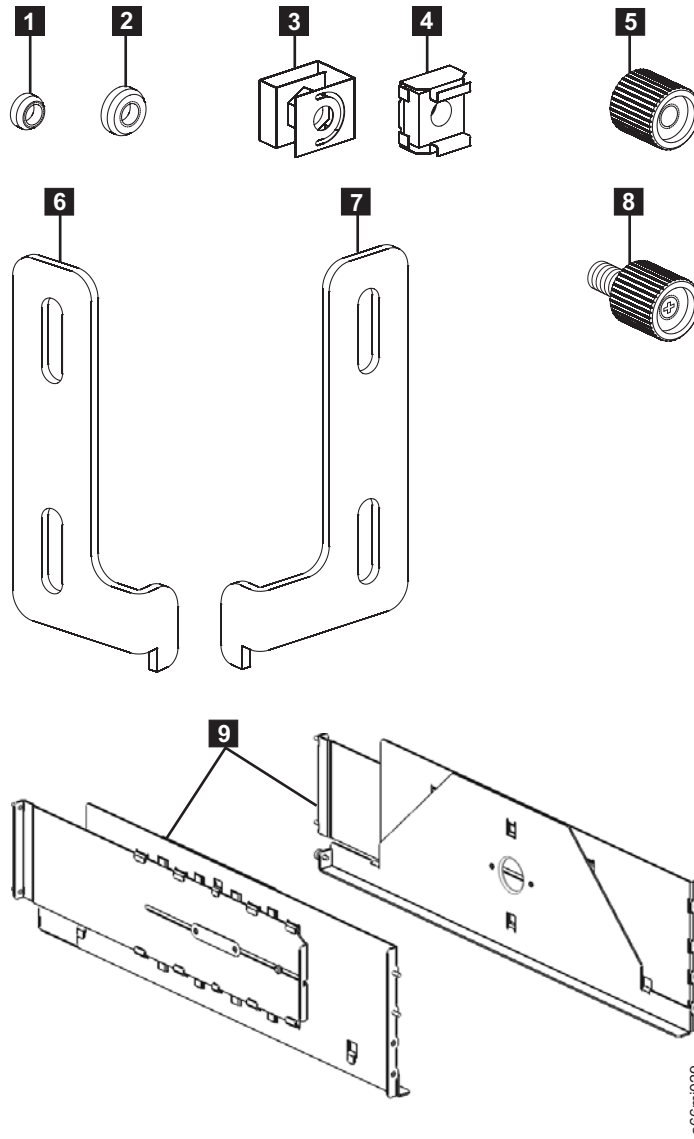

Figure 3-13. Rack Mount Kit hardware (parts not sized proportionately in figure)
16	Centering nuts: <ul style="list-style-type: none"> • 8 for racks with round holes (1 in Figure 3-13) • 8 for racks with square holes (2 in Figure 3-13)
8	Black thumb nuts (5 in Figure 3-13)
2	Rack ears (6 and 7 in Figure 3-13)
4	Rack ear screws (8 in Figure 3-13)
2	Rails (9 in Figure 3-13)
8	Clip/Cage nuts: <ul style="list-style-type: none">• 4 clip nuts for racks with round holes (3 in Figure 3-13 on page 3-12)• 4 cage nuts for racks with square holes (4 in Figure 3-13 on page 3-12)
2	Rack ears (6 and 7 in Figure 3-13 on page 3-12):
4	Rack ear screws (8 in Figure 3-13 on page 3-12):
The rails (**9** in Figure 3-13 on page 3-12) in the Rack Mount Kit will be used to support the bottom unit of your library, and require 5 EIAs (or 15 holes) of vertical rack space. However, there are only 4 rail studs on each rail, positioned in a staggered manner for increased stability. For proper installation, you must first determine where the bottom of your library will be, then identify which holes you'll use for the rail studs and place either cage nuts (for racks with square holes) or clip nuts (for racks with round holes) in the appropriate locations.
3. Install clip nuts (**3** in Figure 3-13 on page 3-12) for vertical rack rails with round holes or cage nuts (**4** in Figure 3-13 on page 3-12) for vertical rack rails with square holes in the front rack rails in the marked positions.
5. Install clip nuts (**3** in Figure 3-13 on page 3-12) for vertical rack rails with round holes or cage nuts (**4** in Figure 3-13 on page 3-12) for vertical rack rails with square holes in the front rack rails in the marked positions.
- Use the round hole centering nuts (**1** in Figure 3-13 on page 3-12) for vertical rack rails with round holes.
- Use the square hole centering nuts (**2** in Figure 3-13 on page 3-12) for vertical rack rails with square holes.
- b. Place a thumb nut (**5** in Figure 3-13 on page 3-12) on each stud and tighten.